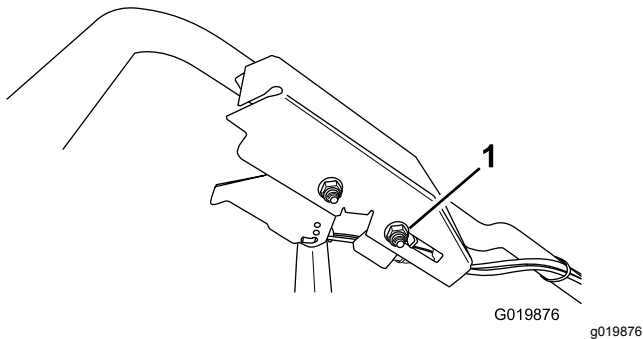

Figure 52
2. Loosen the cable-support nut (Figure 52).